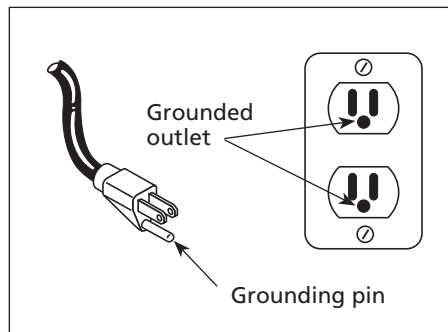

Figure 1 - Grounding method
- 1. This product is for use on a nominal 120 volt circuit and has a grounding plug that looks like the plug illustrated in Figure 1. Make sure the product is connected to an outlet having the same configuration as the plug. This product must be grounded. In the event of an electrical short circuit, grounding reduces risk of electrical shock by providing an escape wire for electric current. This product is equipped with a cord having a grounding wire with an appropriate grounding plug. Plug must be plugged into an outlet that is properly installed and grounded in accordance with all local codes and ordinances.